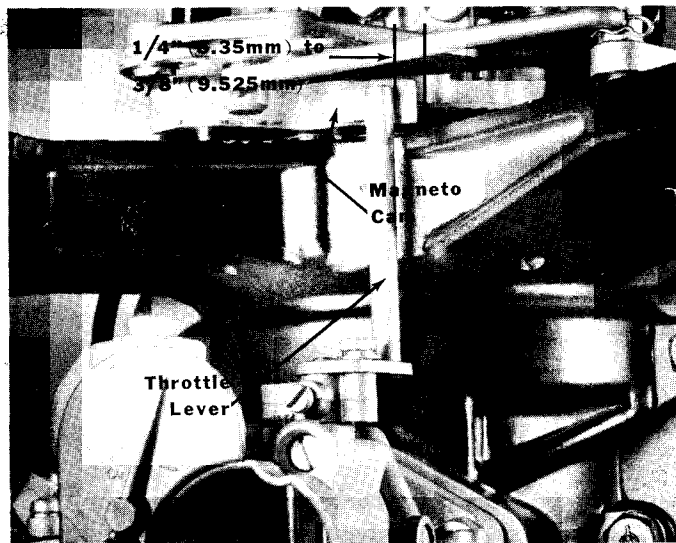

Figure 6. Magneto Cam Touching Throttle Lever
4. Retard magneto to idle position. If necessary, bend end of leading edge of magneto cam to touch throttle lever approximately $1/4''$ (6.350mm) to $3/8''$ (9.525mm) from end of cam. (Figure 6)